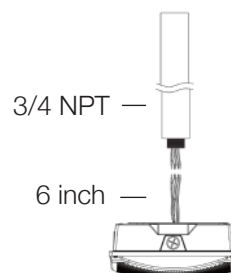

Fig. 3.4
4. Hang the luminaire by the plate and connect the wiring of the luminaire to the local power supply (Fig 3.4). Please take note that the size of the knockout on the back plate is $\frac{3}{4}$ NPT. The power and dimming wires provided are approximately 6 inches. Since the wires are set in silicone, the length of the wires cannot be extended.